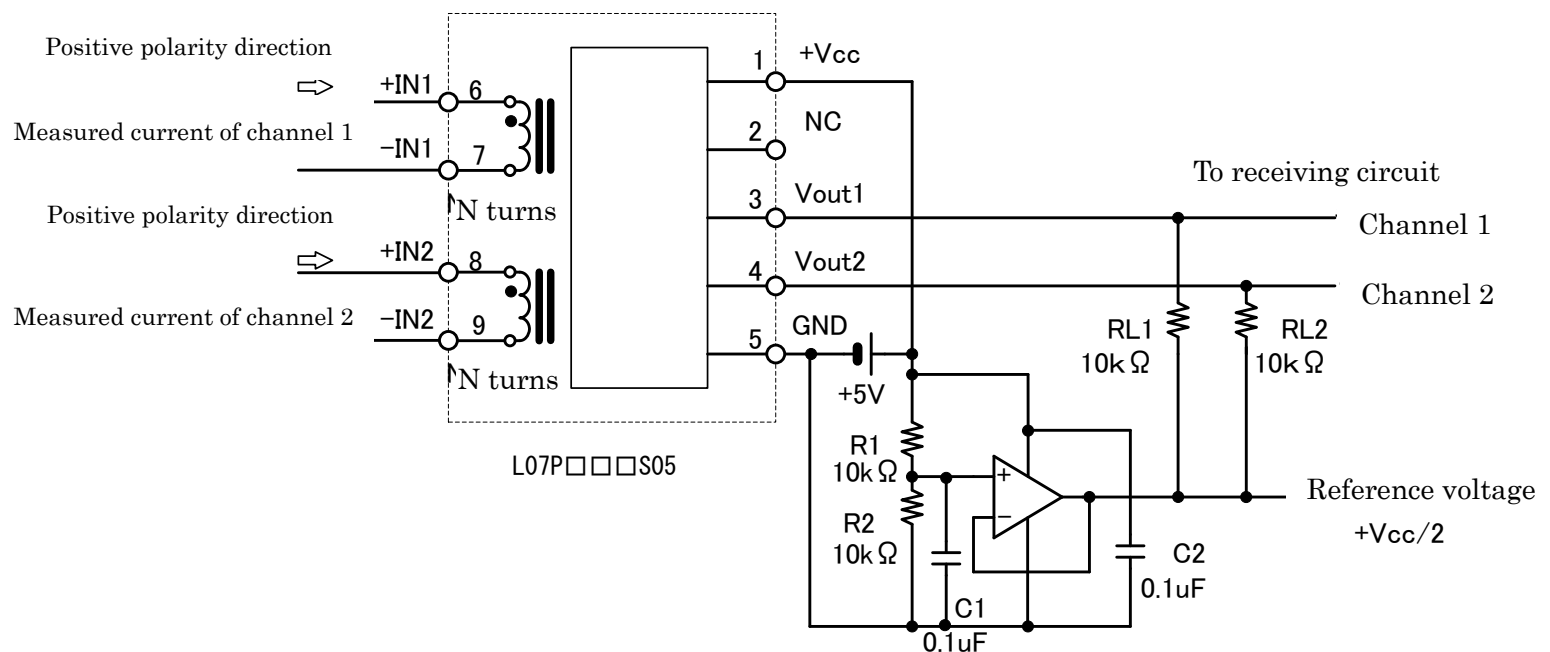

Fig. 4: L07P□□□S05 Standard circuit
□Description of Fig. 4
This current sensor converts a measured current into a voltage. The output voltages V_{out1} (3) and V_{out2} (4) in Fig. 4 are output on the basis of $V_{cc}/2$ potential. When the current to be measured in channel 1 is 0,
$R_L = 10 \text{ k}\Omega$ in Fig. 4 is the equivalent resistance of the receiving circuit of the current sensor output V_{out} (4). Connect between V_{out} terminal (4) and reference potential ($V_{cc}/2$).